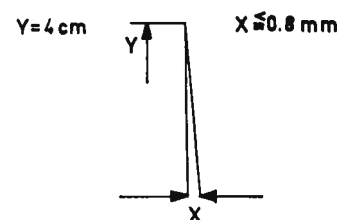

Fig. 80. Hum influence on the C.R.T.
- Hum on the picture tube (Fig. 80):